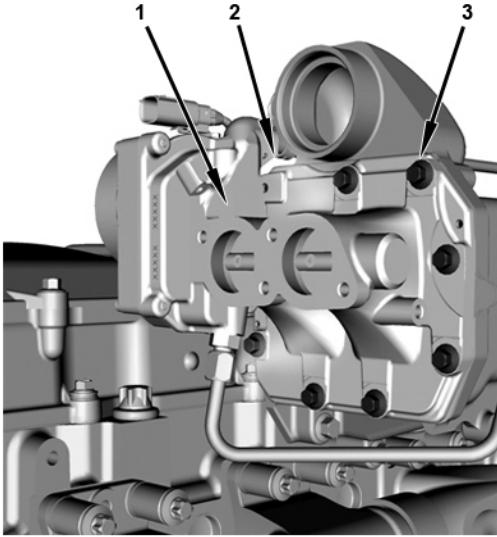

Figure 23 EGR Valve
1. Install EGR valve (1) with nine new M8 x 30 heat-resistant bolts (3) and tighten finger tight. Install EGR valve coolant return tube assembly (2) (Figure 23).